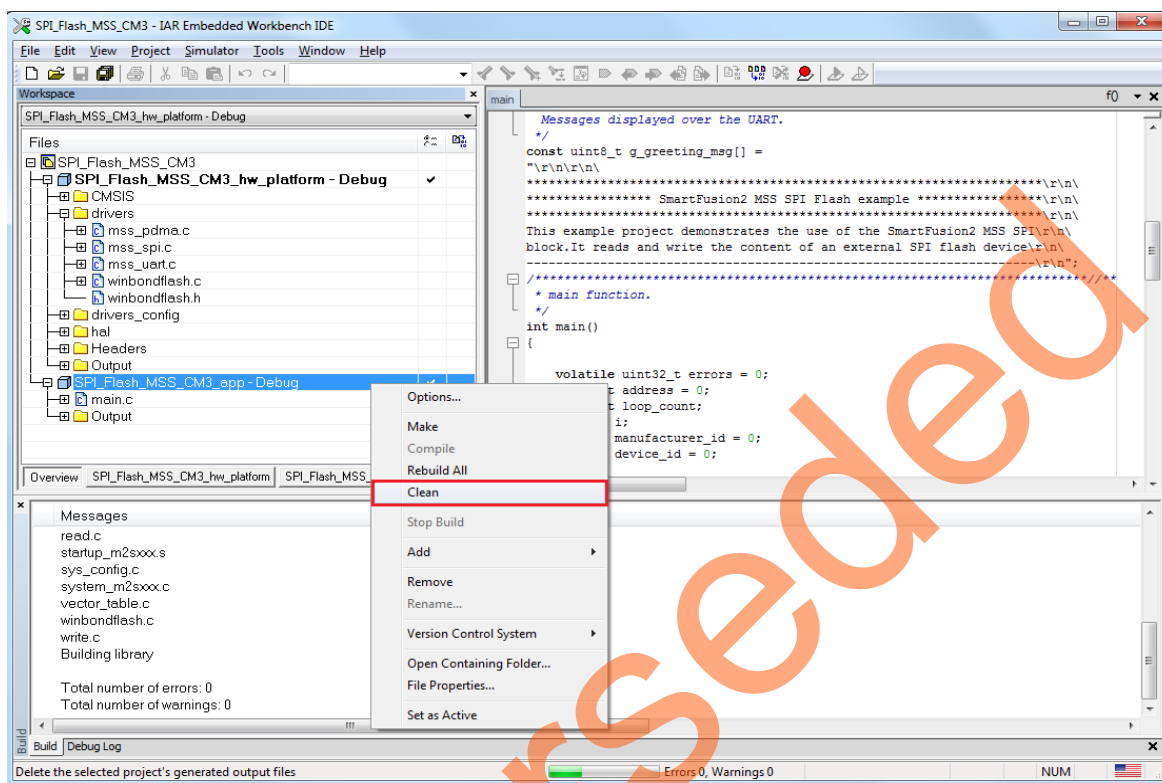

Figure 34 • IAR Workspace - Execute Clean on SPI_Flash_MSS_CM3_app Project
19. Right-click **SPI_Flash_MSS_CM3_app - Debug** project name and select **Clean** as shown in Figure 34.